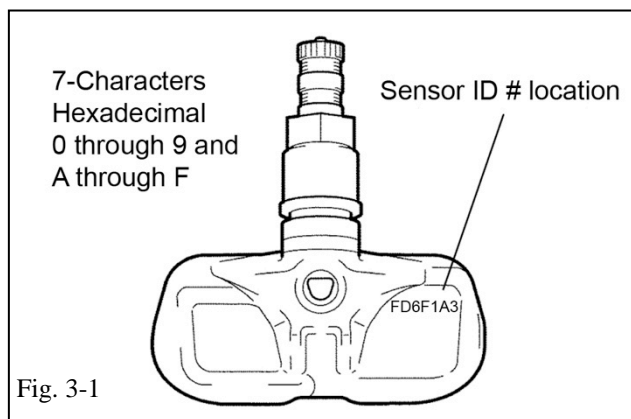

Fig. 3-1
- If previously removed sensor is 40 degree sensor, proceed to step 3 (c). If previously removed sensor is 20 degree sensor, you must install new 40 degree sensors into accessory wheels. When installing new 40 degree sensors, you **MUST** record sensor ID codes for all wheels and register these new ID codes (Fig 3-1) with the vehicle ECU. Each sensor has a unique sensor ID code. The sensor ID code is a 7-character hexadecimal string comprised of numbers 0 through 9 and letters A through F. See Fig 3-1 for example code and location.